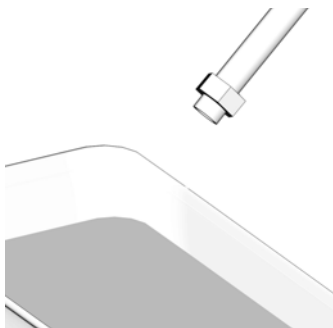

FIG. 73
- a. Place end of hose in a waste container (FIG. 73).